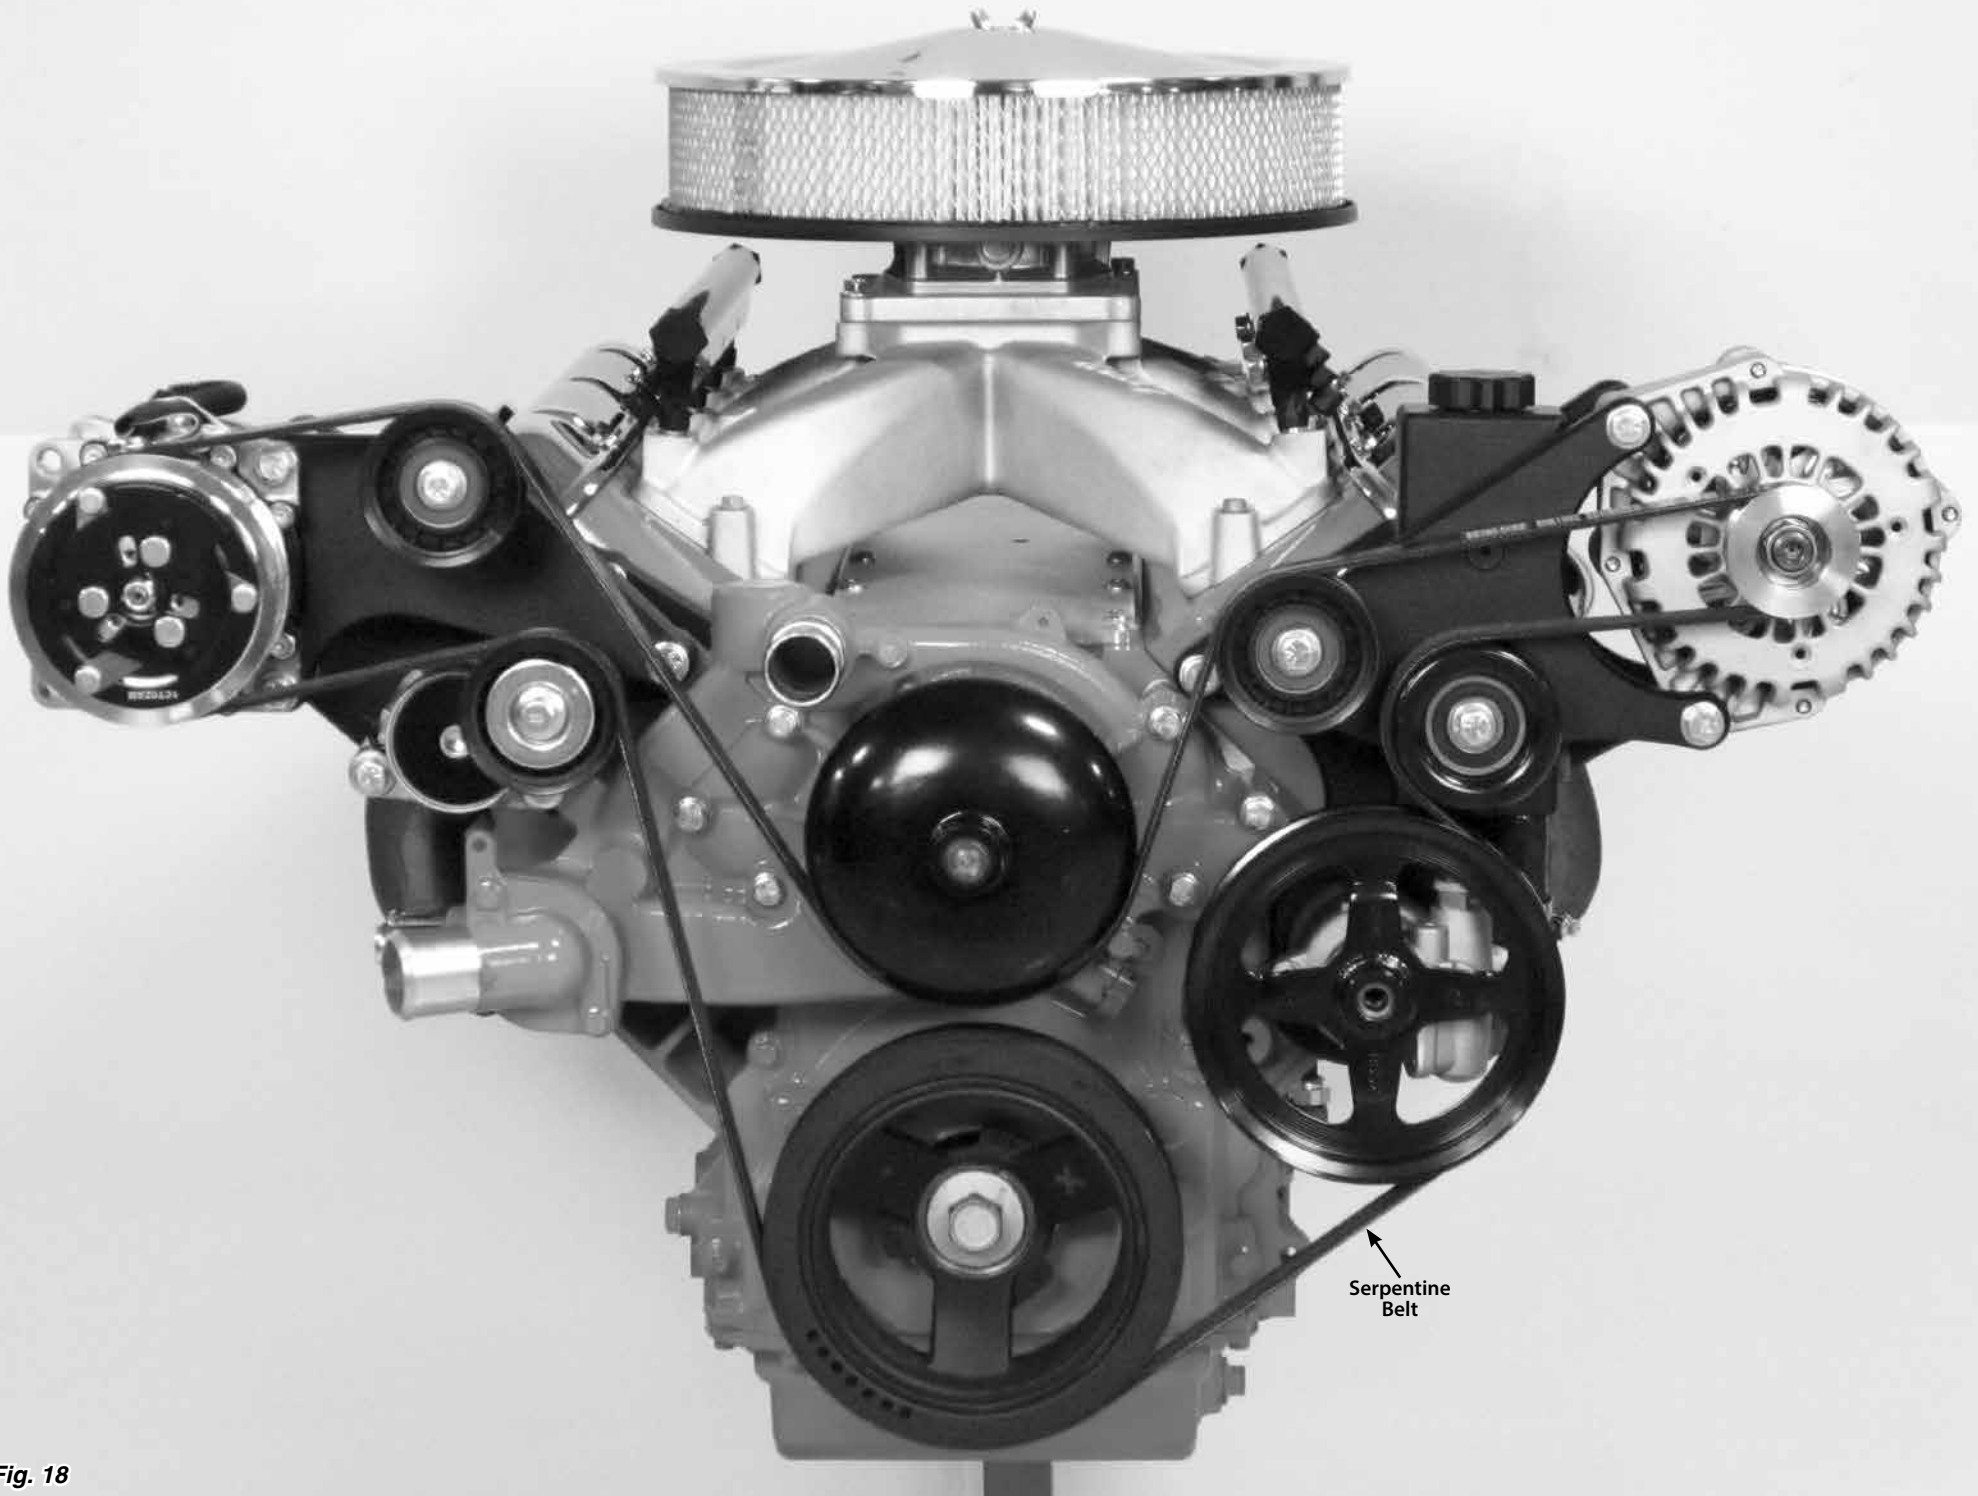

Fig. 18
Step 15: Route the serpentine belt as shown in *Fig. 18*. If the engine is out of the vehicle, it will be easiest to leave the water pump pulley for last. Place a wrench on the tensioner pulley bolt, and apply clockwise pressure to move the tensioner pulley downward as you slide the belt around the final pulley.